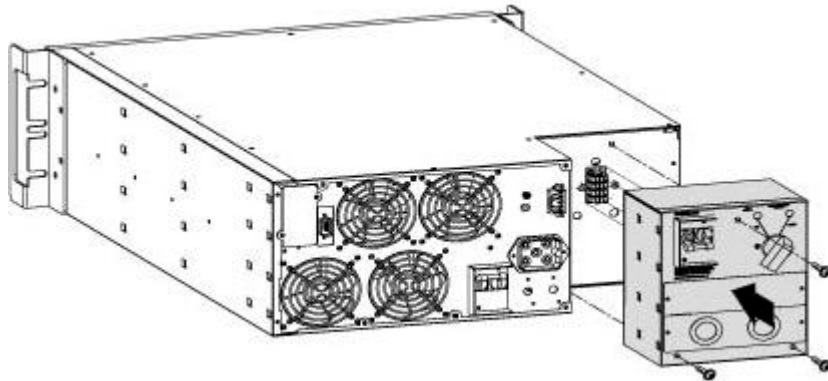

FIG 40 – PDU INSTALL 6KVA UPS
7. On the 6kVA model, align terminals on the backside of the PDU with the ones on the UPS, and slide the PDU into the UPS (FIG 40).